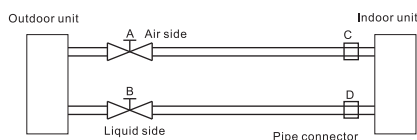

Fig 19
■ If the connection pipe is no more than 5 meters, use refrigerant in outdoor unit to exhaust the air(50-100 g refrigerant is charged for emptying the pipe before the outdoor unit is delivered, refer to Fig 19).
- ① Srew down the nuts at A, B, C, D joint completely.
- ② Turn on the nut of the Valve B with the hexagon wrench and then turn the valve core 45° anti-clockwisely for 10 seconds with the inner-hexagon wrench, then tighten the union A.
- ③ Have the leak test at A, B, C, D joint and then press the core of Valve A to exhaust the air for 20 seconds and then screw down the service valve.
- ④ Open Check valve B and A completely with the inner-hexagon wrench, then tighten nuts of them.